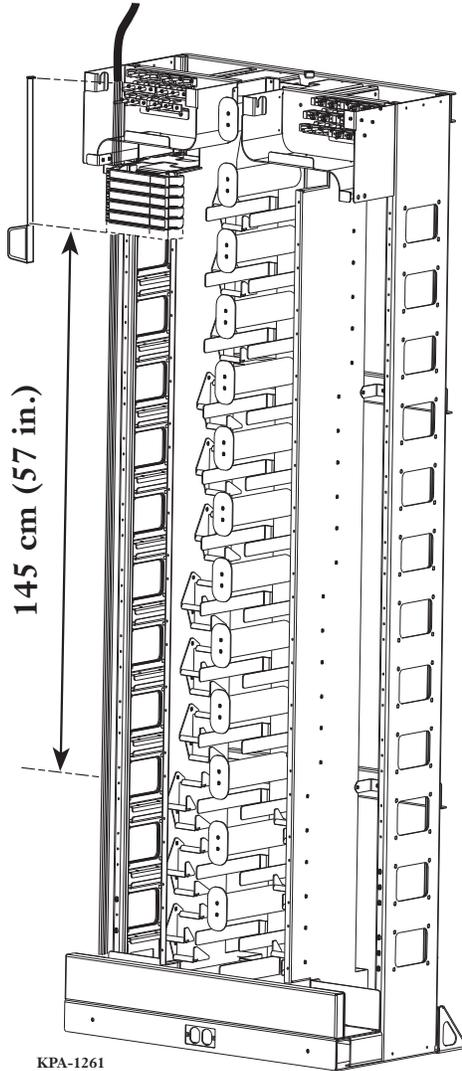

Figure 13
Step 5: Determine size/type and length of tubing (Figure 13).